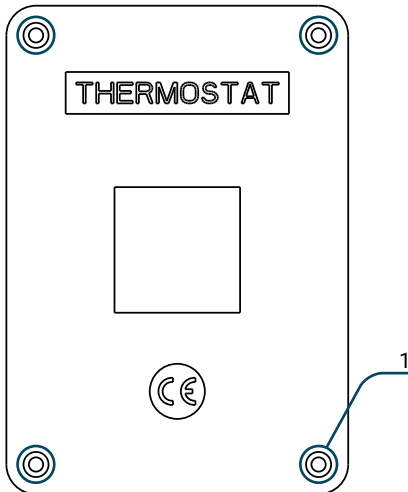

Figure 1
1. Remove the cover from the device unscrewing the n.4 fixing screws (fig. 1)